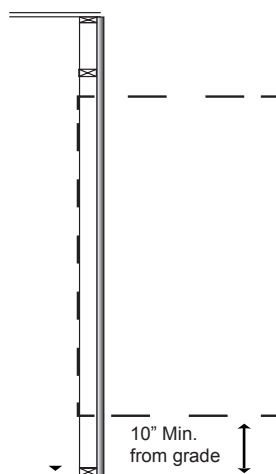
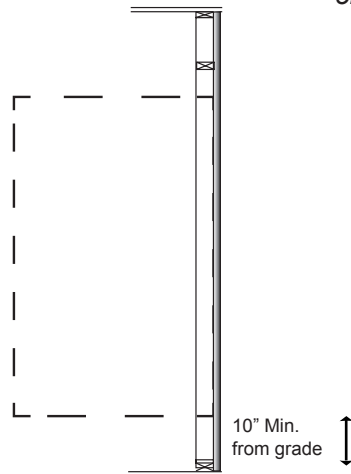
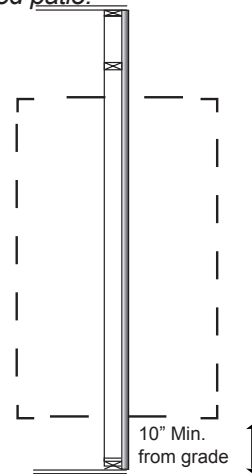

Figure 3a: Unit flush to interior wall
Figure 3b: Unit flush to exterior wall
Figure 3c: Unit extends beyond both interior and exterior wall
Step 2. You may position the unit in framed opening to be flush to the interior wall (Fig. 3a) flush to the exterior wall (Fig.3b), or partially extending beyond both sides (Fig. 3c). Be sure to take into account finished surfaces (exterior facade and interior drywall or other finish when determining final positioning.